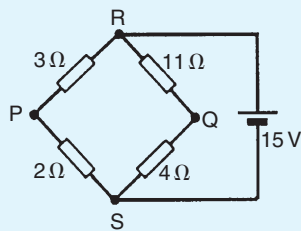

Figure 13.93
8. With reference to Fig. 13.93, which of the following statements is correct?
9. In Fig. 13.93, if the 15 V battery is replaced by a short-circuit, the equivalent resistance across terminals  $PQ$  is: